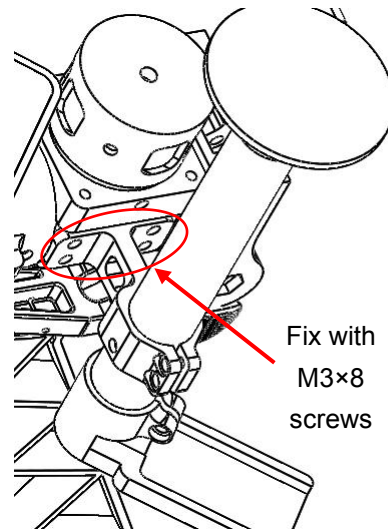

Figure 8
4) Fix the GPS module on the arm M2 as the figure 8.